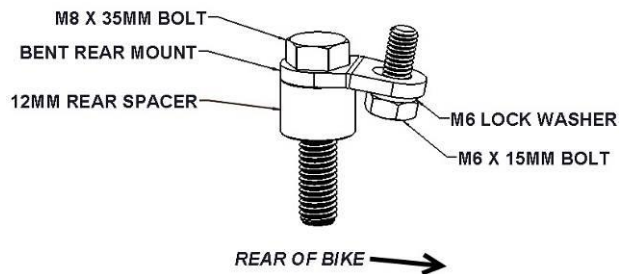

FIG. 2
5. PUT A M8 X 35MM BOLT THROUGH THE LARGE HOLE IN THE BENT REAR MOUNT. THEN SLIDE A 12MM LONG SPACER OVER THE BOLT. SEE FIG.2 AND NOTE THE DIRECTION OF THE BENT REAR MOUNT.